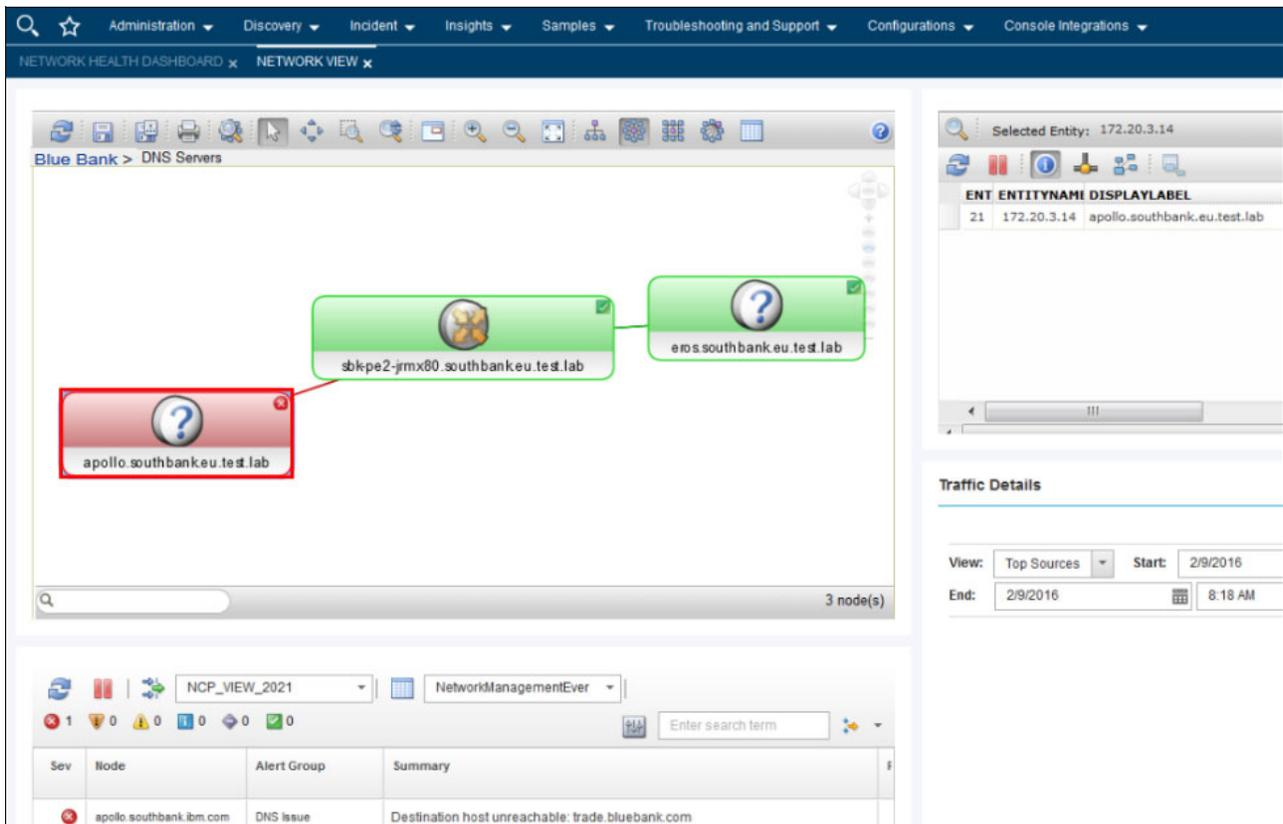

Figure 2-28 Network view of the Primary and Secondary DNS servers
3. Brock clicks the Network View tab for the DNS network topology, as seen in Figure 2-28.